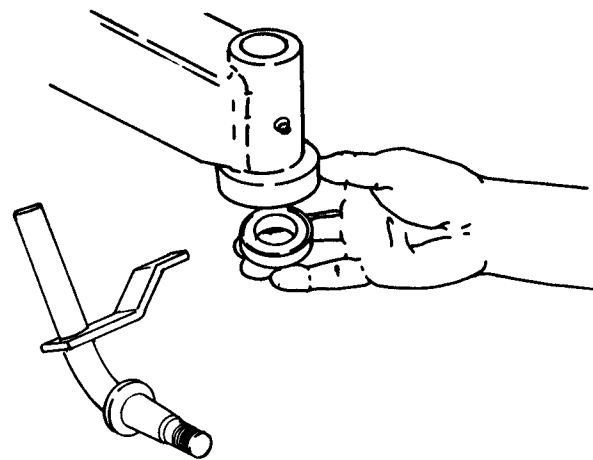

FIG. 2.32 — LOWER SPINDLE BUSHING
4. Drive lower bearing out and reinstall new. Figs. 2.32. and 2.33.